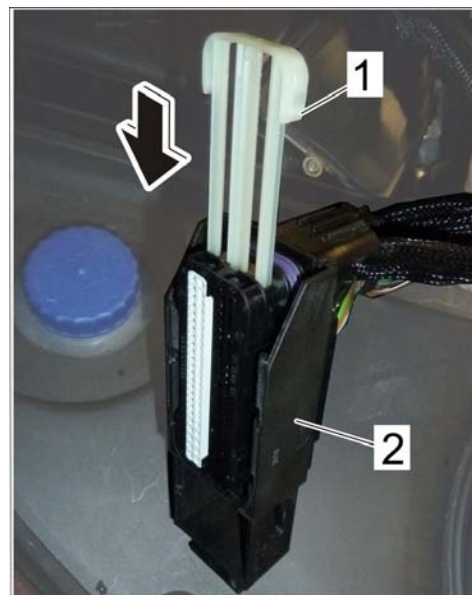

Figure 13
- 12 Slide the locking mechanism for the plug-in contacts \Rightarrow *Figure 13 -1-* completely into the connector housing \Rightarrow *Figure 13 -2-* (\Rightarrow *Figure 13 -arrow-*).